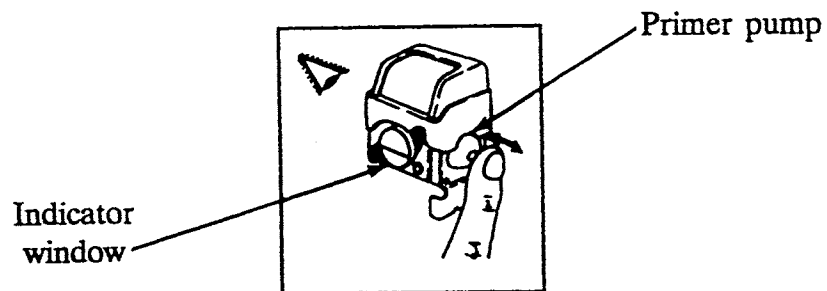

Figure 4
2. Give a gentle push to the primer pump. See Figure 4.